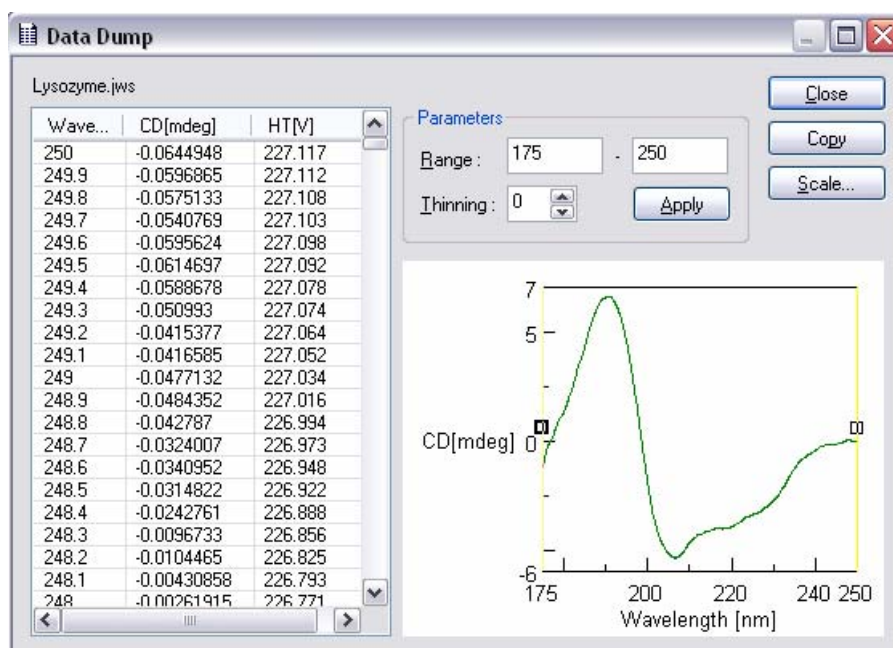

Figure 7.22 [Data Dump] dialog box
- (3) Click on the <Apply> button. The digital data, wavelength, CD and HT are displayed on the left side of the dialog box (see Fig. 7.22).
[Copy]: Reads the digital data wavelength, CD and HT which are displayed on the left side of the dialog box (see Fig. 7.22). These can be pasted into a text file (Notepad, Wordpad, Word, etc...).